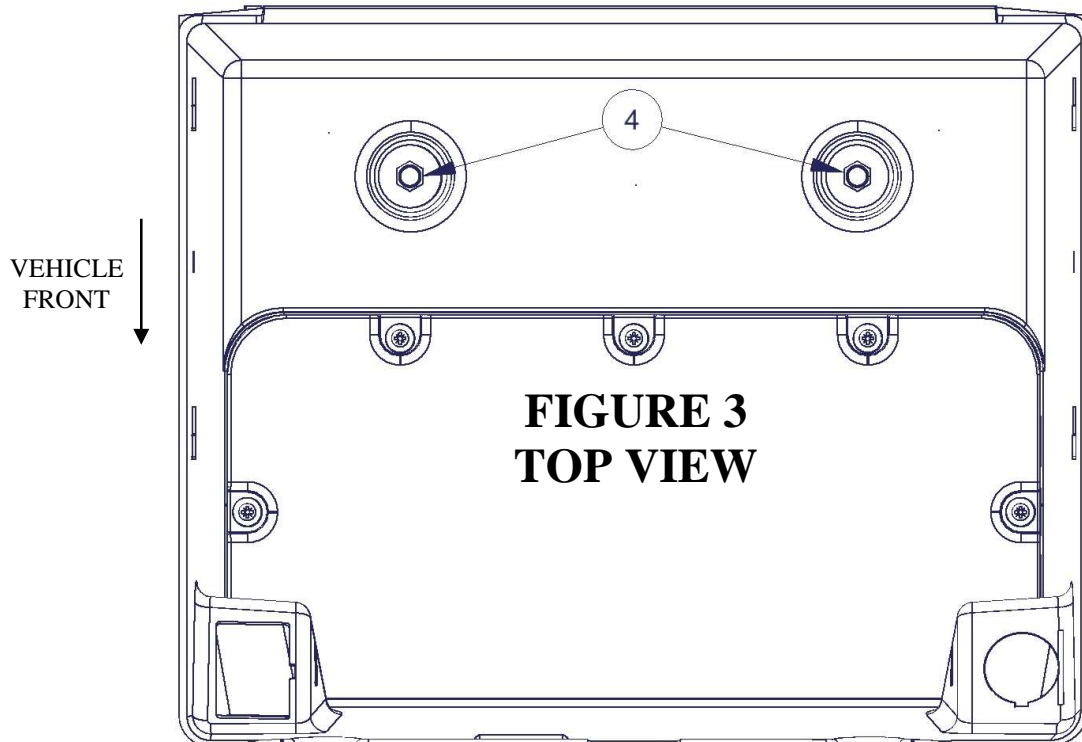

**FIGURE 1**
2. Unlock the lid of the #320 Console Insert and rest on a flat surface, open the lid and assemble the lid support hardware as shown in Figure 1. Tighten the hardware in small increments so that the lid remains supported as you require. After assembling this hardware, the Console Insert will no longer fully collapse to its original shipping size, do not attempt to force it closed.
NOTE: Second nylon washer (#14.3 shown below assembly in Figure1) slips between moving slotted part, and stationary body.